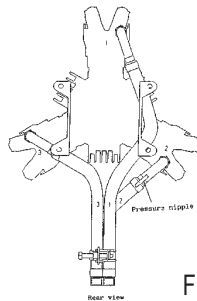

Figure 7
- When installing the mufflers, oil both the manifold threads and the engine cylinder heads. Optional flexible mufflers are available for the FA-90R3, FA-170R3D and FA-450R3D. An example of a connection for the flexible mufflers is shown in Figure 7 below. Refer to the Cross Reference Chart for the part numbers for flexible mufflers.